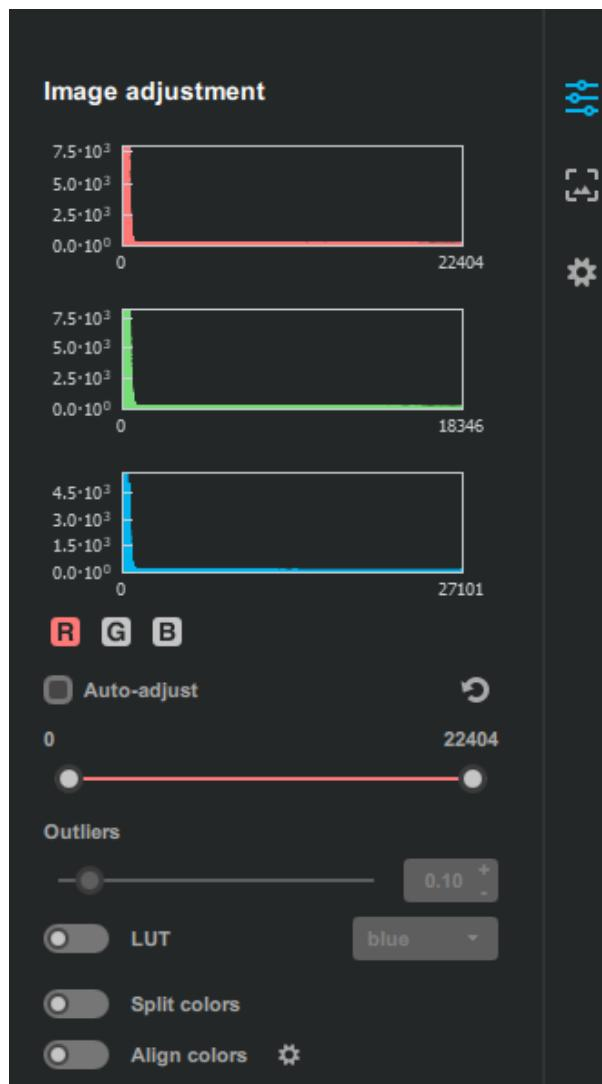

Figure 11.12.4: Figure: Widefield/TIRF image adjustments panel in Bluelake.
- The first setting is **Image Adjustment** (see Figure 11.12.4). This panel allows you to adjust the intensity of colors shown on the camera based on their pixel values. You can manually adjust the color detection channels' histograms by selecting the **R**, **G**, or **B** boxes and using the colored range slider. Alternatively, you can enable the **Auto-adjust** box for